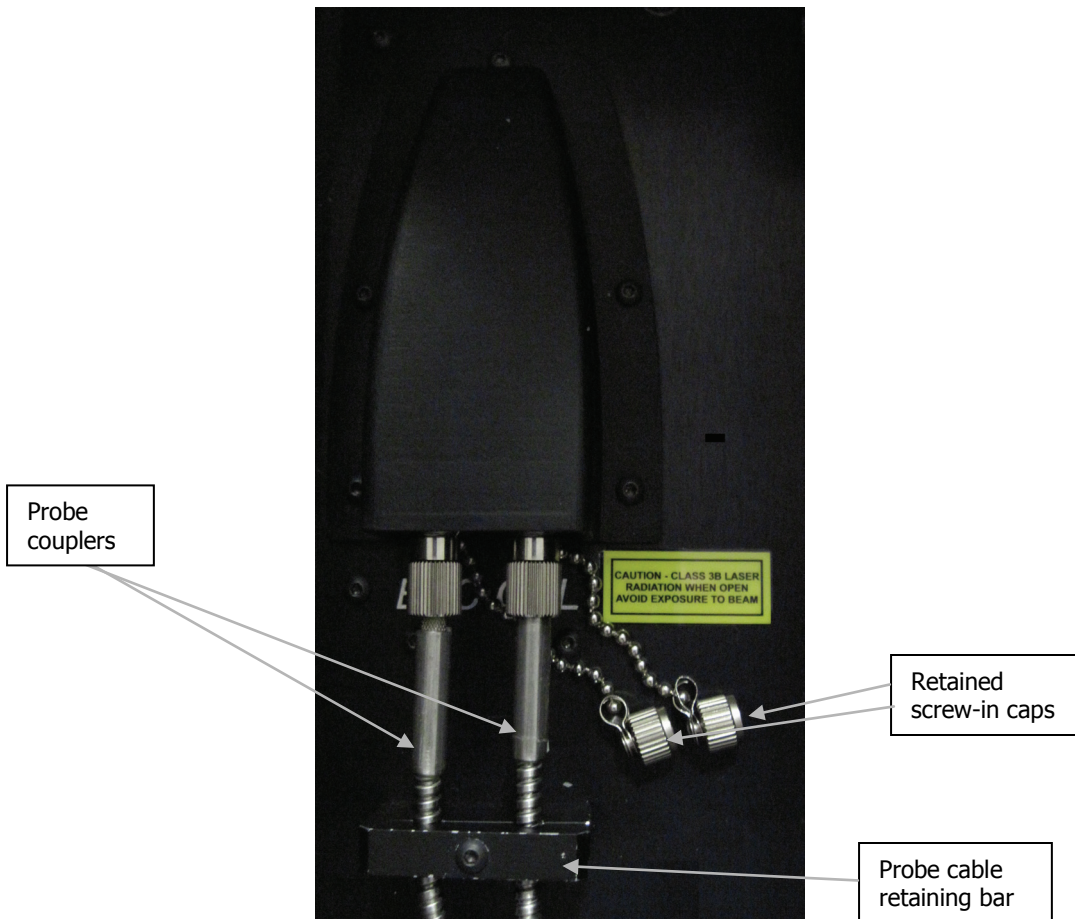

Figure 17 Probe connectors
3. Unscrew and remove the probe cable retaining bar (Figure 17).